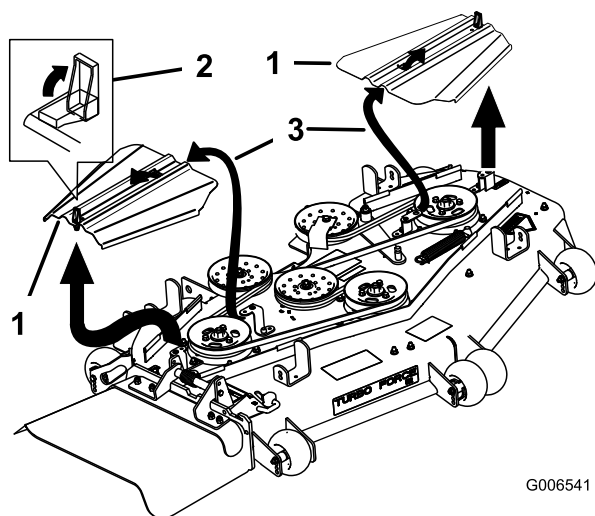

Figure 61
3. Remove the belt covers (Figure 61).